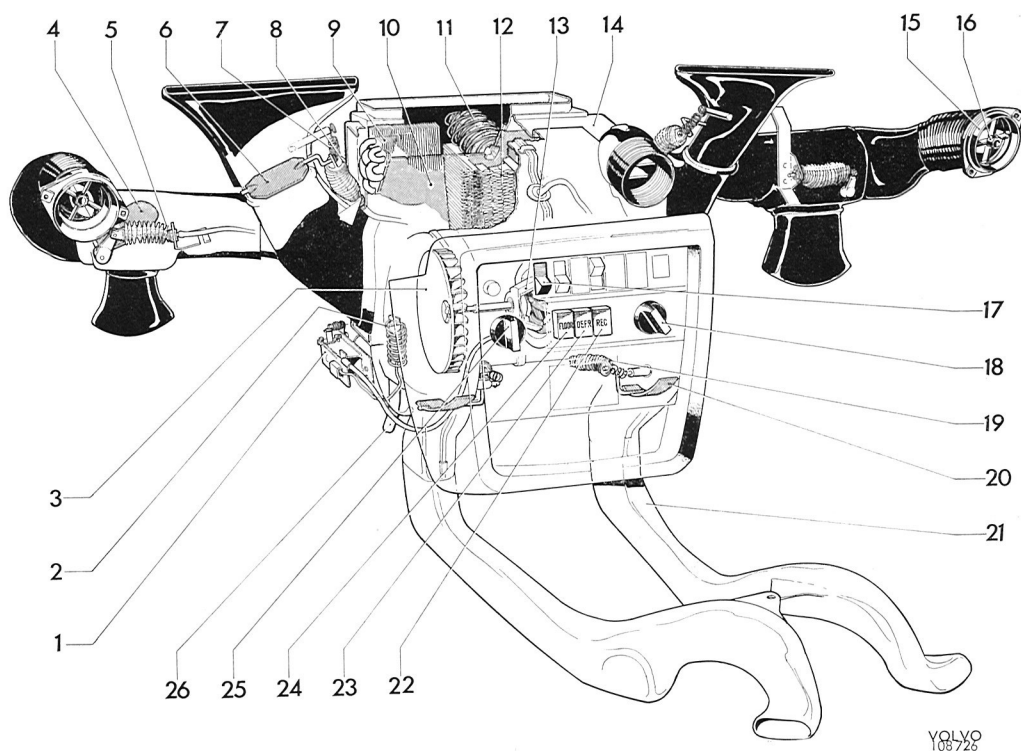
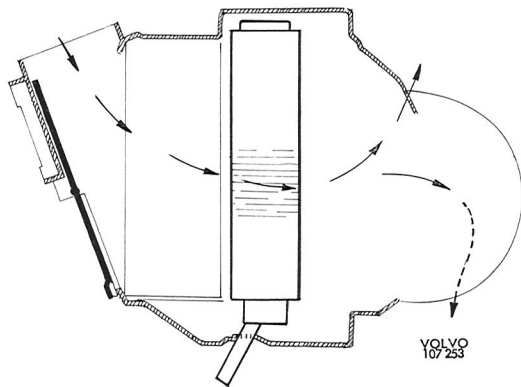
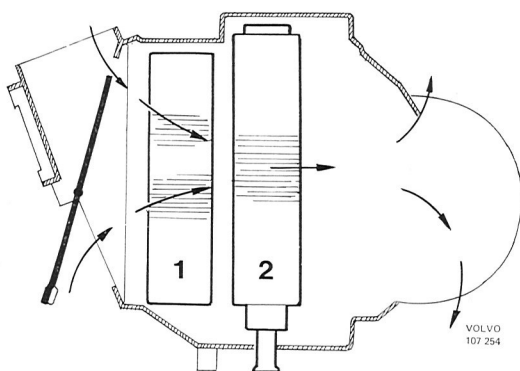

Fig. 8-43. Combined unit
Fig. 8-44. Air circulation through system
Fig. 8-45. Air circulation through system with re-circulation
This is a combined heater and fresh-air unit, prepared for installation of air conditioning. It consists of a central unit (14, Fig. 8-43), located under the dash, and air ducts and nozzles for distributing the air to the various points inside the car. All shutters for air directing are regulated by vacuum, which is taken from the engine intake manifold via a vacuum tank located under the dashboard. The four vents (15) on the dash are manually adjustable and can be turned, opened and closed irrespective of each other and by a knob in the center of the valve (16). An electric motor (13) located in the central unit takes care of the air circulation. This motor is provided with a through shaft and two turbine wheels (3). The cellular assembly (12) of the heater system is placed in front of the electric motor. Vehicles with air conditioning have the evaporator (9) in-
The air flow through the vents on the dash are only regulated by the vent shutter and is not influenced by the push buttons. When all buttons are out, only fresh air is drawn into the unit (Fig. 8-44), all flow ducts are closed and the defroster effect is weak. When the button marked "FLOOR" is pushed in, full air flow is supplied to the front and rear floor together with weak defroster effect. When the middle button "DEF" is pushed in, full defroster effect is obtained while the floor ducts on the other hand are fully closed. When the right button marked "REC" is pushed in, the air intake cover is adjusted to re-circulation of the compartment air (Fig. 8-45). With the cover in this position, only a small portion of fresh air is sucked in and mixed with the compartment air. If the vehicle is provided with air conditioning, more effective lowering of the temperature inside the compartment is obtained if the re-circulation is used.
Even when the air conditioning is switched on with a switch (17, Fig. 8-43) on the dash, the air temperature is regulated by the "TEMP" control. Fig. 8-45 shows how the sucked-in air is first cooled when it passes the evaporator (1) and how it is heated, when it passes the heater cell assembly
(2), up to the temperature adjusted by the "TEMP" control. When the air passes the evaporator, it liquifies as it cools. The moisture which condenses on the evaporator during the cooling, is drained through the two hoses (26, Fig. 8-43), which run through the transmission tunnel.